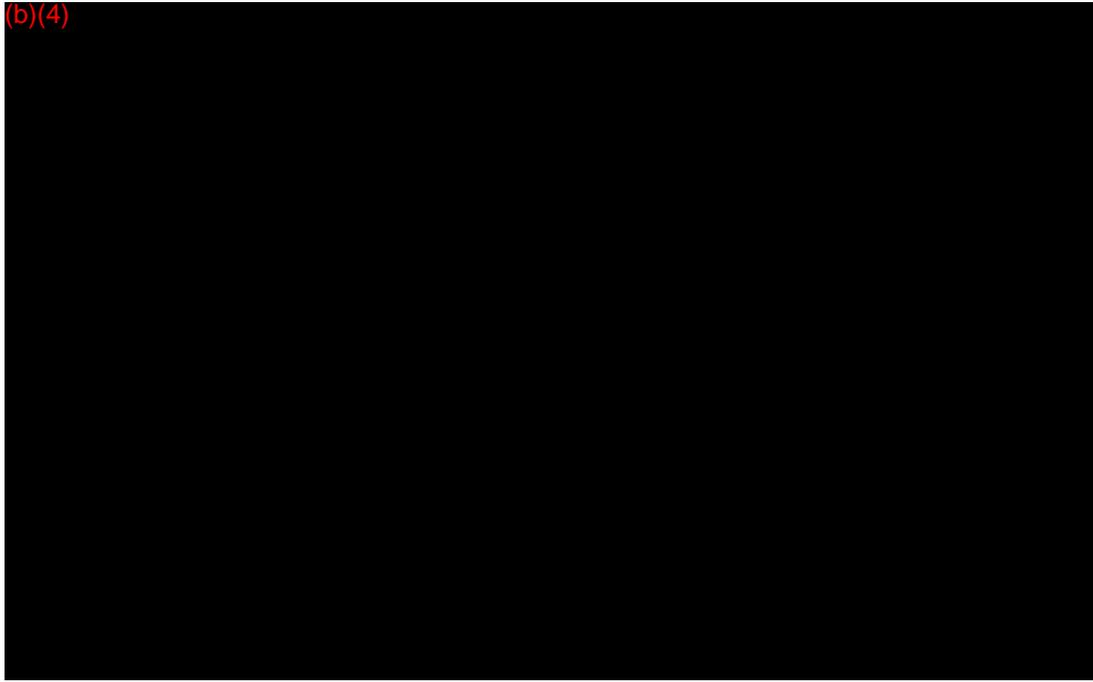

Figure 10 - Overall IQ scores for (b)(4)
The (b)(4) score for each case along with the minimum and maximum score (when they differ from the median score) are shown below in Figure 10. (b)(4)